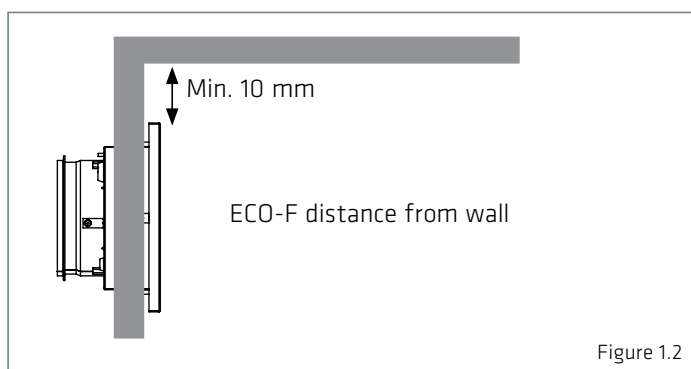
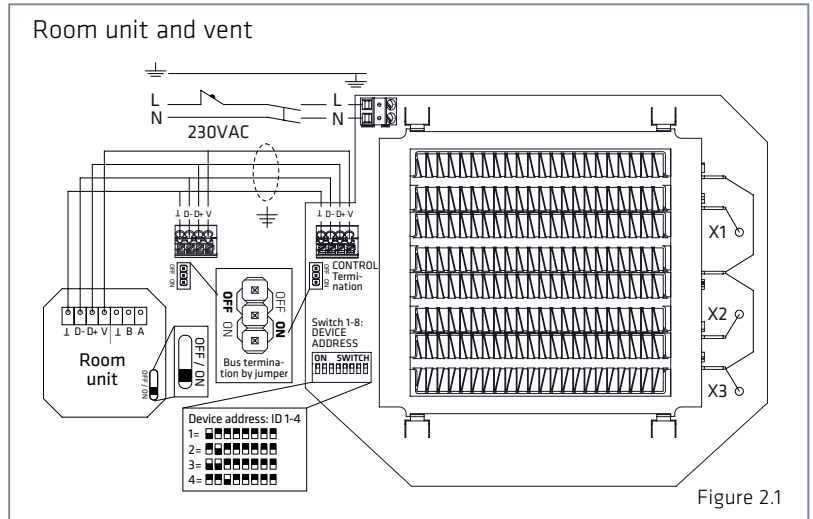

Figure 1.2
Figure 2.1
2. The minimum distance of the terminal device from the ceiling is 100 mm (see Figure 1.2). Install the terminal device at a minimum height of 1.8 m. Ensure that children cannot get their hands on the device.
3. Detach the grille (2) from the body. Remove the three fastening screws (3) and pull the grille off the body (1).
5. Connect the supply cable (MMJ) through a double-pole switch, and the control unit's bus cable (KLMA) to the connectors in the electronics section of the terminal device, as shown in Figures 2.1–2.3.